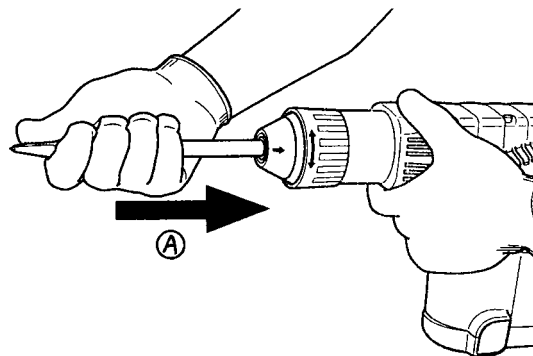

Fig. 6
Adjust the groove position by turning the tool and push it in (A) direction until it latches itself. (Fig. 6)